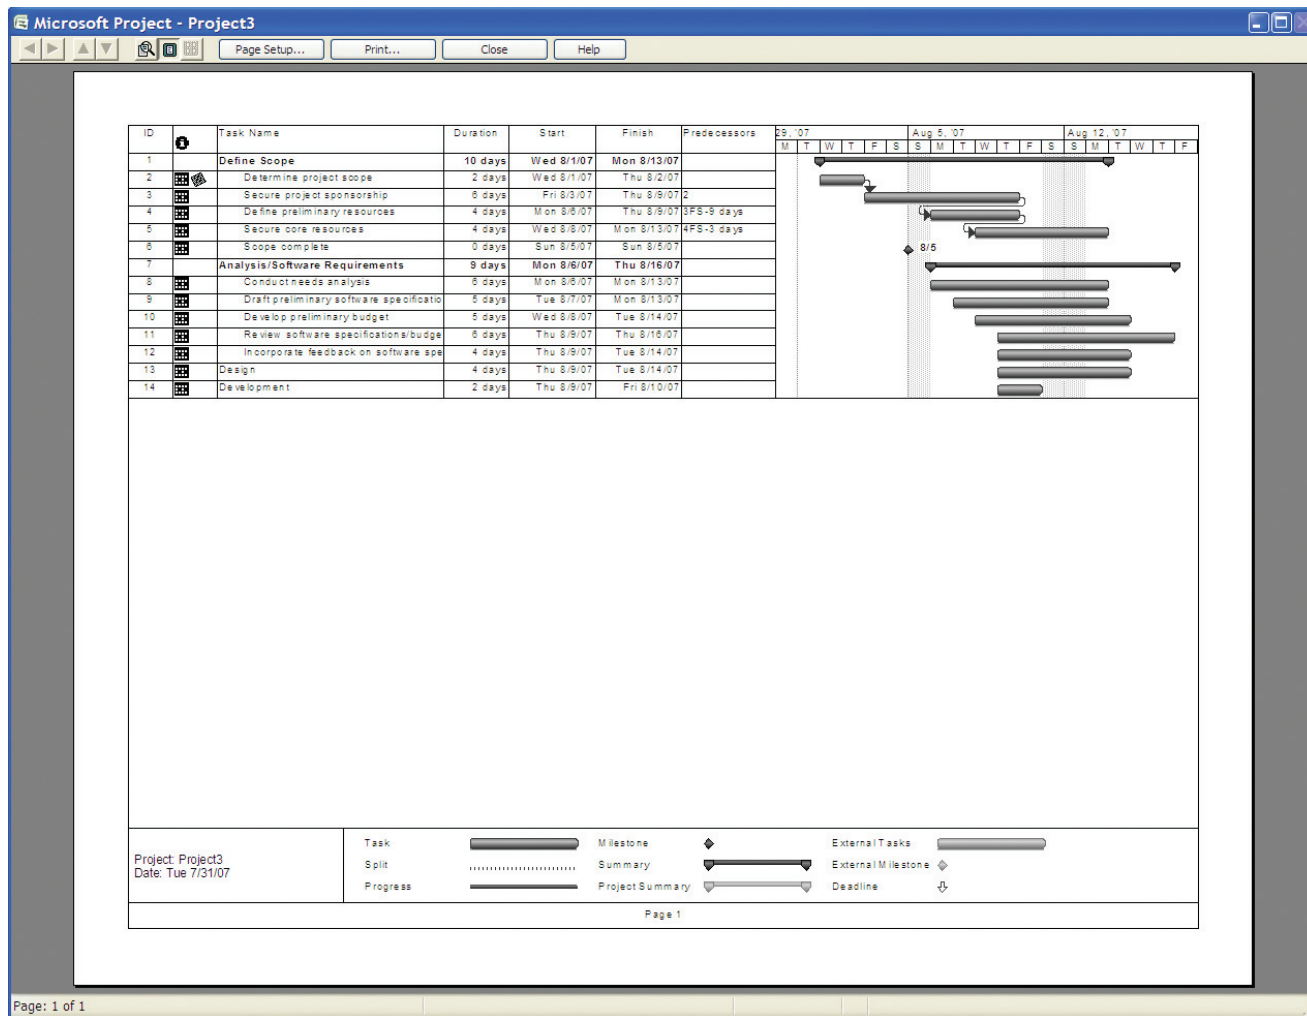

FIGURE T12.23
3. On the Standard toolbar, click **Print Preview**. This opens a window showing how the view will appear when printed and the results of the Page Setup options you selected (see Figure T12.23).